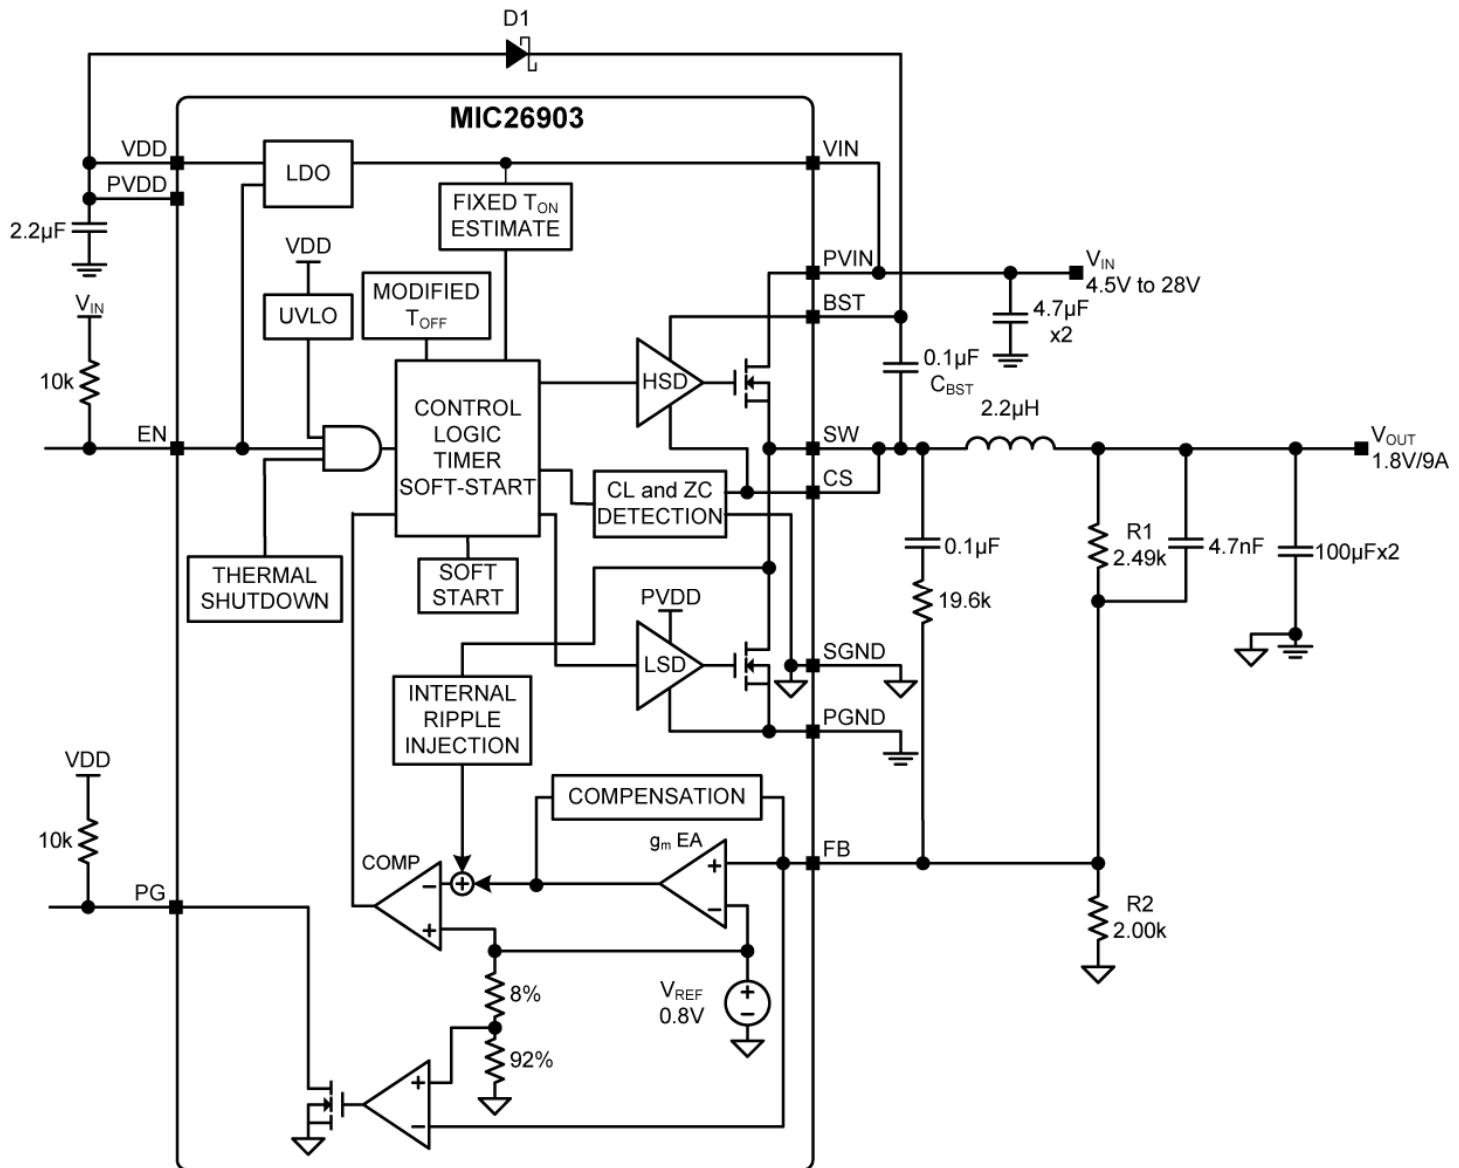

Figure 1. MIC26903 Block Diagram
The MIC26903 is able to operate in either continuous mode or discontinuous mode. The operating mode is determined by the output of the Zero Cross comparator (ZC) as shown in Figure 1.
The Block Diagram (Figure 1) shows a bootstrap circuit, consisting of D1 (a Schottky diode is recommended) and  $C_{BST}$ . This circuit supplies energy to the high-side drive circuit. Capacitor  $C_{BST}$  is charged, while the low-side MOSFET is on, and the voltage on the SW pin is approximately 0V. When the high-side MOSFET driver is turned on, energy from  $C_{BST}$  is used to turn the MOSFET on. As the high-side MOSFET turns on, the voltage on the SW pin increases to approximately  $V_{IN}$ . Diode D1 is reverse biased and  $C_{BST}$  floats high while continuing to keep the high-side MOSFET on. The bias current of the high-side driver is less than 10mA so a 0.1 $\mu$ F to 1 $\mu$ F is sufficient to hold the gate voltage with minimal droop for the power stroke (high-side switching) cycle, i.e.  $\Delta_{BST} = 10mA \times 1.67\mu s / 0.1\mu F = 167mV$ . When the low-side MOSFET is turned back on,  $C_{BST}$  is recharged through D1. A small resistor  $R_G$ , which is in series with  $C_{BST}$ , can be used to slow down the turn-on time of the high-side N-channel MOSFET.